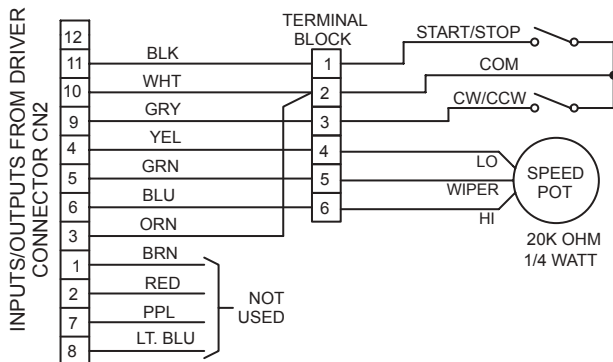
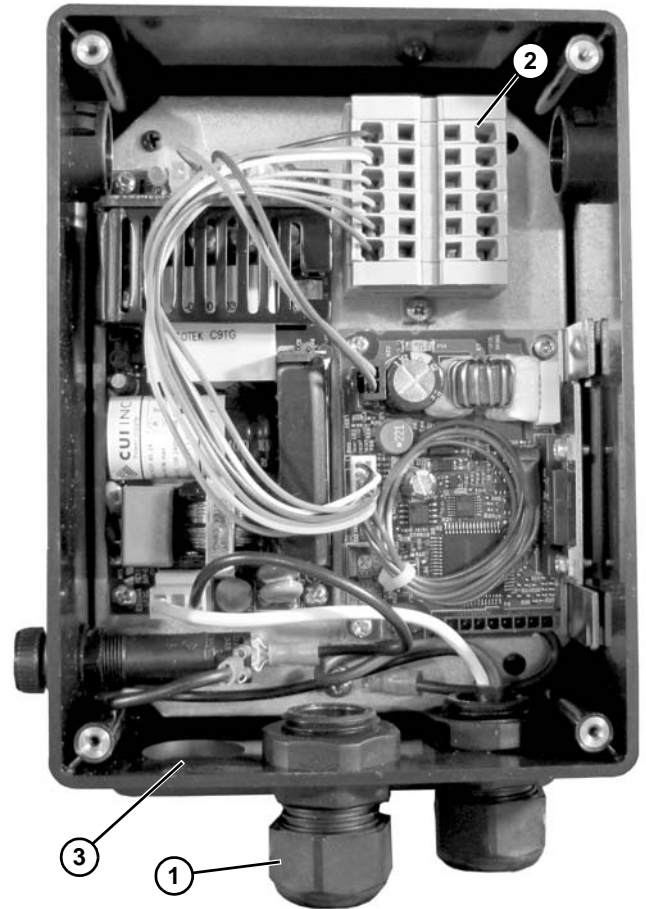

Figure 7
Figure 8
2. Insert shielded cable for external potentiometer into cord grip (**Figure 8, item 1**). Connect high, med, and low to 6, 5, and 4 as shown in (**Figure 7**).
3. Wire START/STOP, COM, and CW/CCW to terminal (**Figure 8, item 2**), as shown in (**Figure 7**).
4. Install motor cord through interface location (**Figure 8, item 3**). Refer to Motor Manual 851-748 or 851-749 for details.